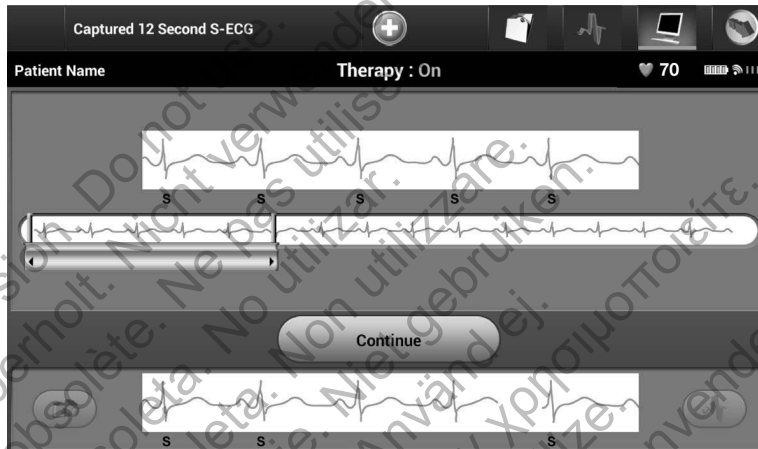

Figure 46: Captured S-ECG rhythm strip
1. Select the Capture S-ECG button located to the left of the Live S-ECG window (Figure 45). The S-ECG will scroll across the display screen. Calipers appear below the Captured S-ECG rhythm strip (Figure 46). Each 12-second recording is date and time stamped according to the programmer's date and time setting.